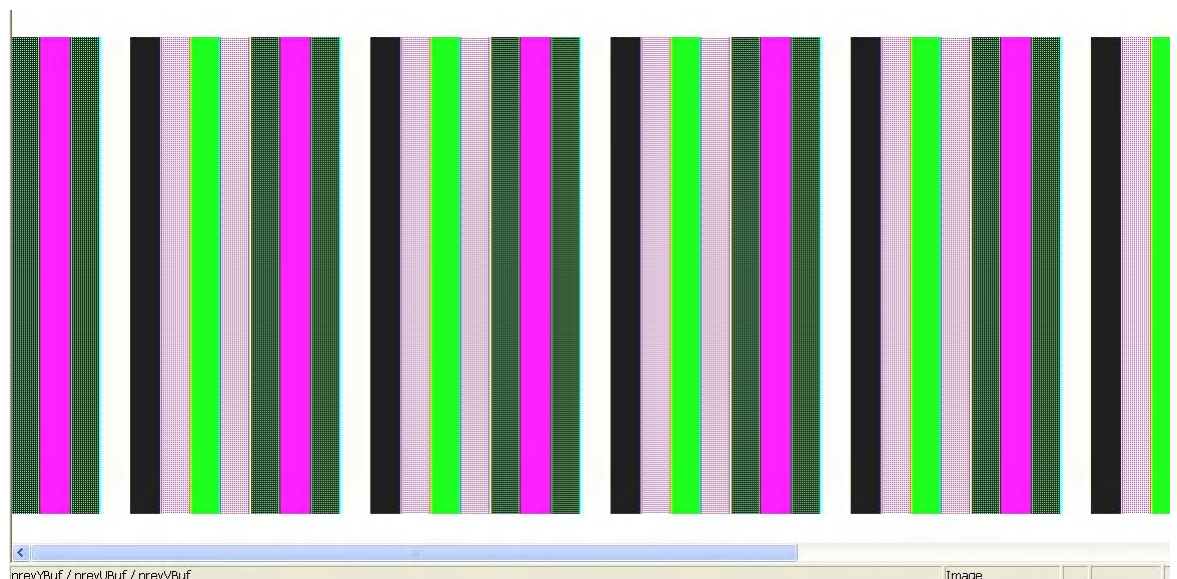

Figure 5. Output Image of the Multipass Example
10. Output Image of the Multipass Example is shown in Figure 5